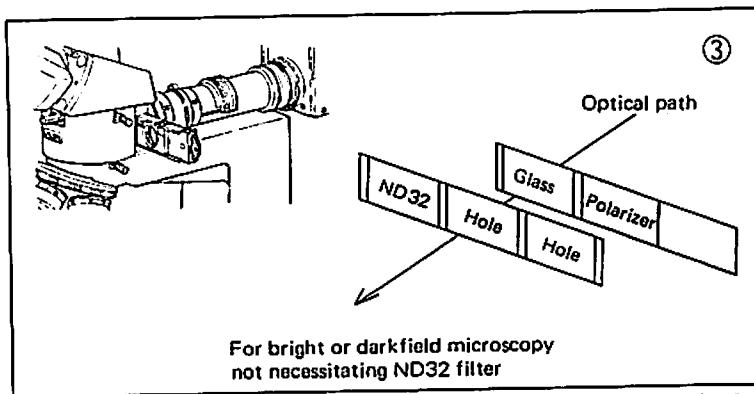

Fig. 9-3
- ③ If no use of the ND 32 filter is necessary under bright-or darkfield illumination, push only the ND filter slider leftward in, until it stops with a click. (Fig. 9-3)